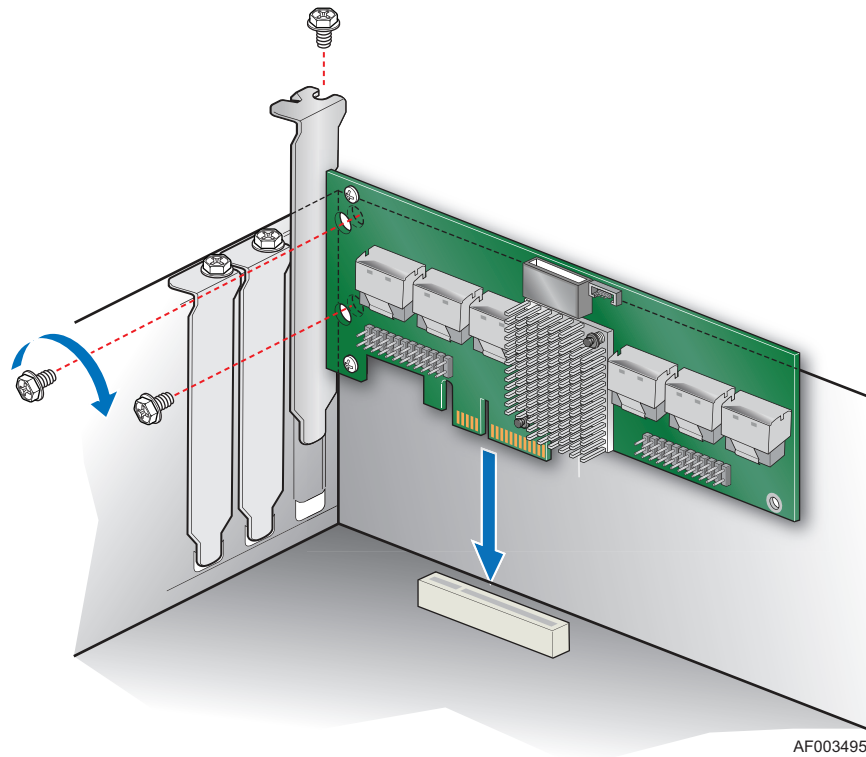

Figure 3. Installing the Expander Card onto a Customized Chassis Wall
5. (Optional) In case power can be supplied remotely from RA 4-pin 12V/5V power connector, the expander card can be located elsewhere within the server chassis instead of using a PCI Express slot, if only the cooling condition can meet the expander card's thermal and atmospheric requirement. The expander card can therefore be fastened by removing its bracket and fasten it to a customized chassis wall (see Figure 3). The expander card already has two holes for fastening the bracket and three additional holds reserved. User needs to prepare screws and standoffs to match the hole size on both the expander card and customized chassis wall.